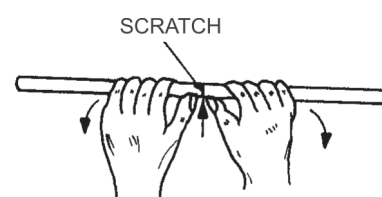

Fig. 2.2 BREAKING THE GLASS-TUBE AT THE SCRATCH
4. Hold the above tube with both the hands such that one thumb is on either side of the scratch but on the opposite sides of the scratch (Fig. 2.2). The scratch will be on the side away from you. Now slightly press the tube with the thumbs. The tube will break at the scratch.
4. Hold the above rod with both the hands such that one thumb is on opposite side of the scratch but on the opposite sides of the scratch (Fig. 2.2). The scratch will be on the side away from you. Now slightly press the rod with the thumbs. The rod will break at the scratch.